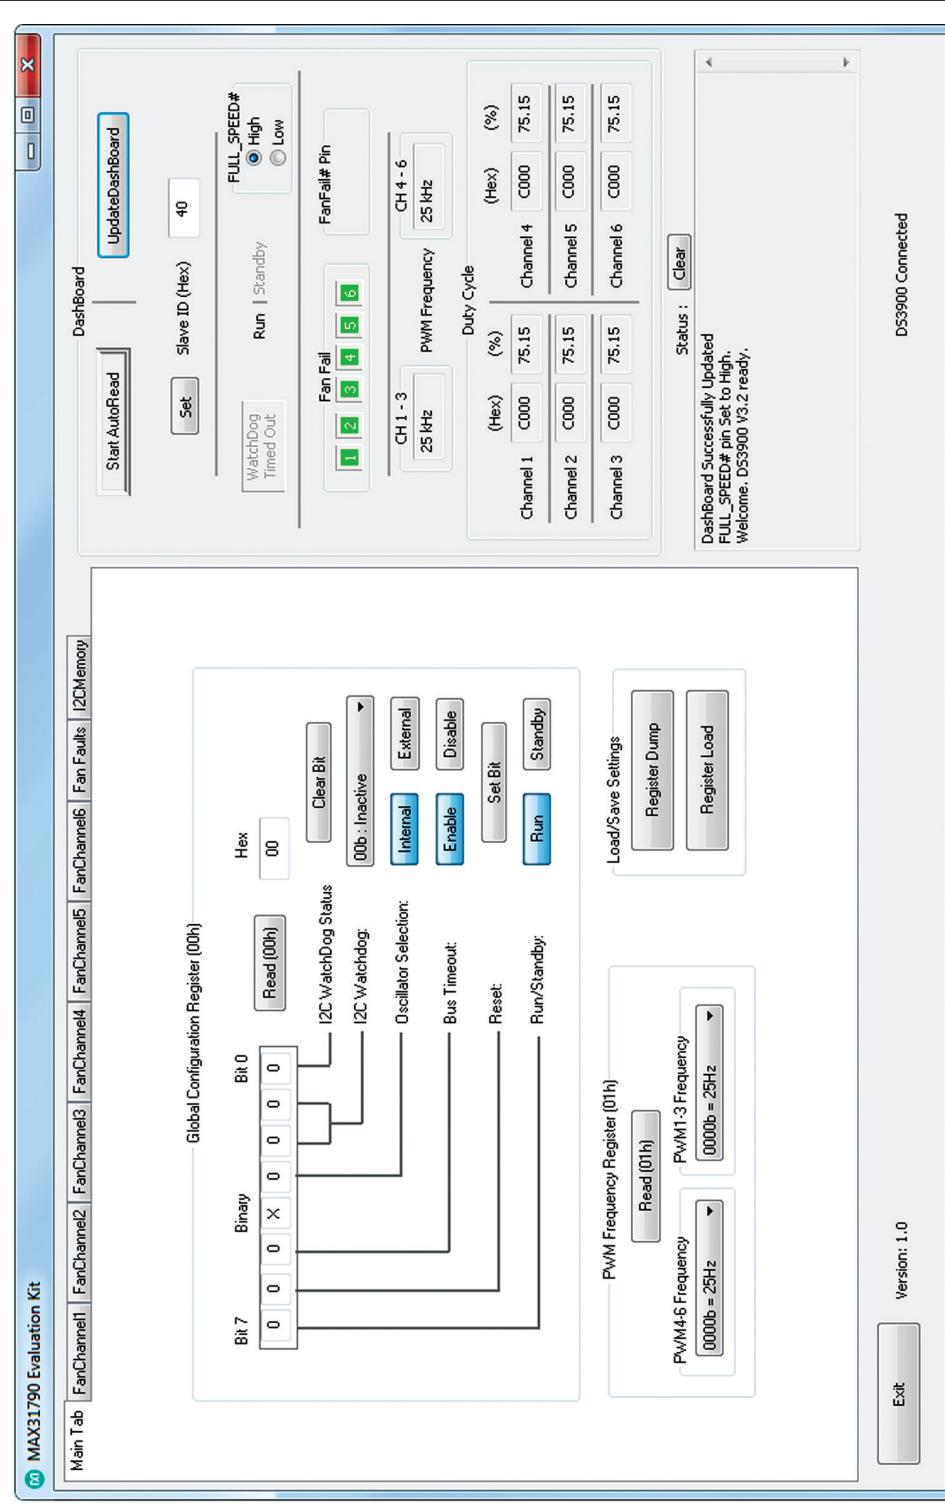

Figure 1. MAX31790 EV Kit GUI (Main Tab)
- 13) To verify communication to the device, with the default jumper/shunt settings described in steps 2–4, press the **UpdateDashBoard** button on the top right corner and verify the **PWM Frequency** updates to 25kHz and all **Duty Cycle values** update to 75.15%, as shown in Figure 1. This completes the EV kit setup. The hardware and software are ready to begin evaluating the device. If any issues arise, see the **Troubleshooting** section.
- **Main Tab** (Figure 1):